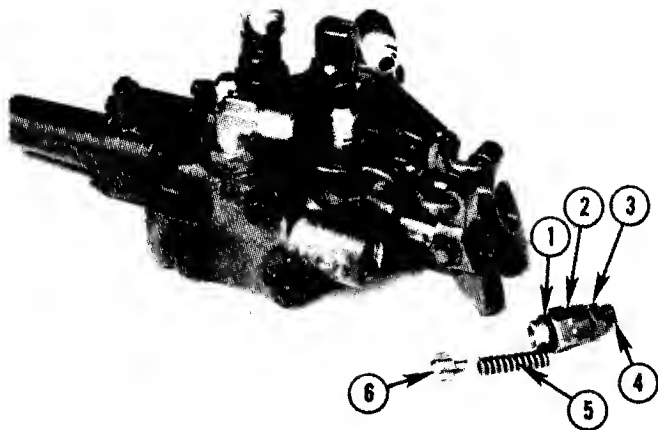

FIG. 5.4--PRESSURE RELIEF & ADJUSTER VALVE PARTS.
5. The adjuster valve components are shown disassembled in figure 5.4. Remove and replace these parts from the outlet body if required. Service valve bodies as follows.